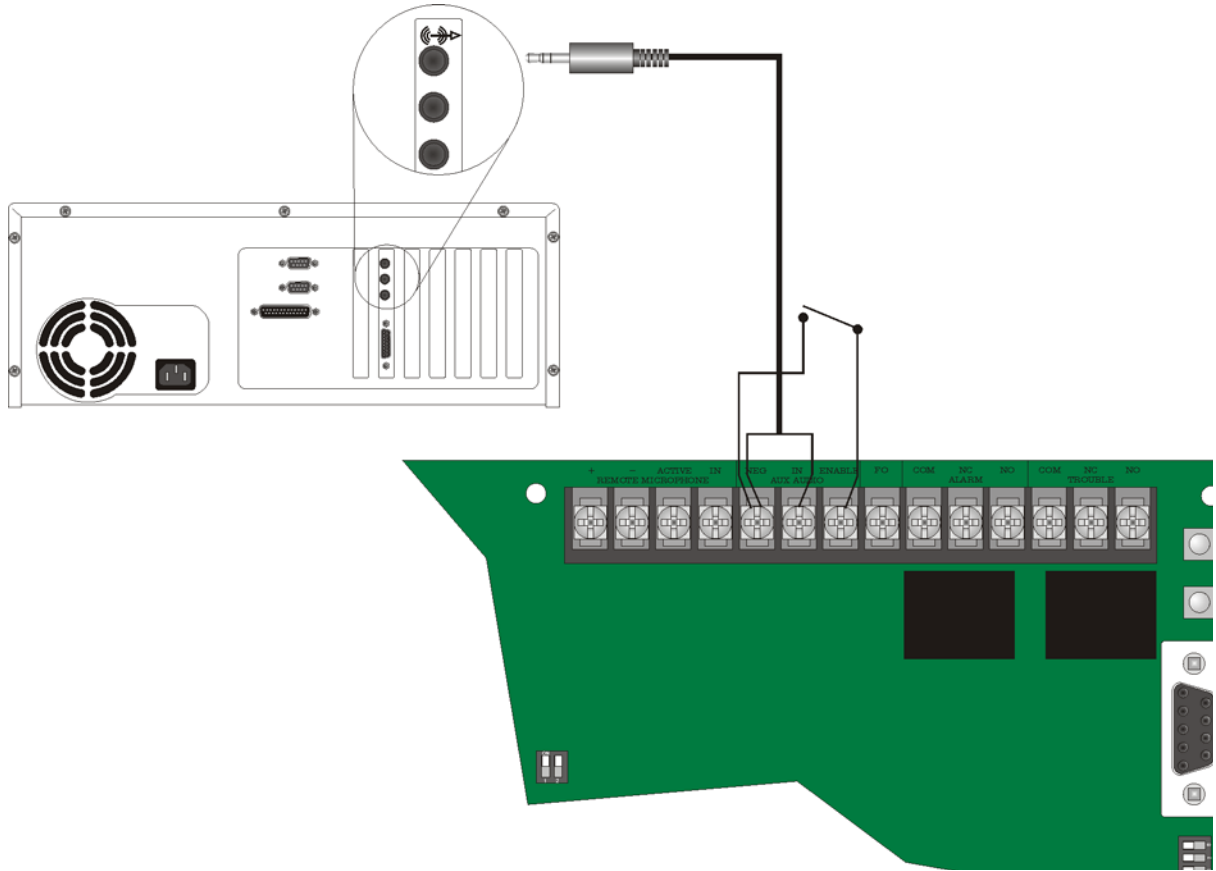

Figure 4-1 Aux Audio Connection for Recording
1. Wire a speaker cable with 1/8” mini plug (Radio Shack Cat. No. 42-2454) to Aux Audio Neg and IN terminals. Refer to Figure 4-1.
2. Plug a the mini plug into the Line Out/Headphone jack on a PC or Laptop. See Figure 4-1.
3. Wire a switch between Aux Audio Enable and NEG. See Figure 4-1.